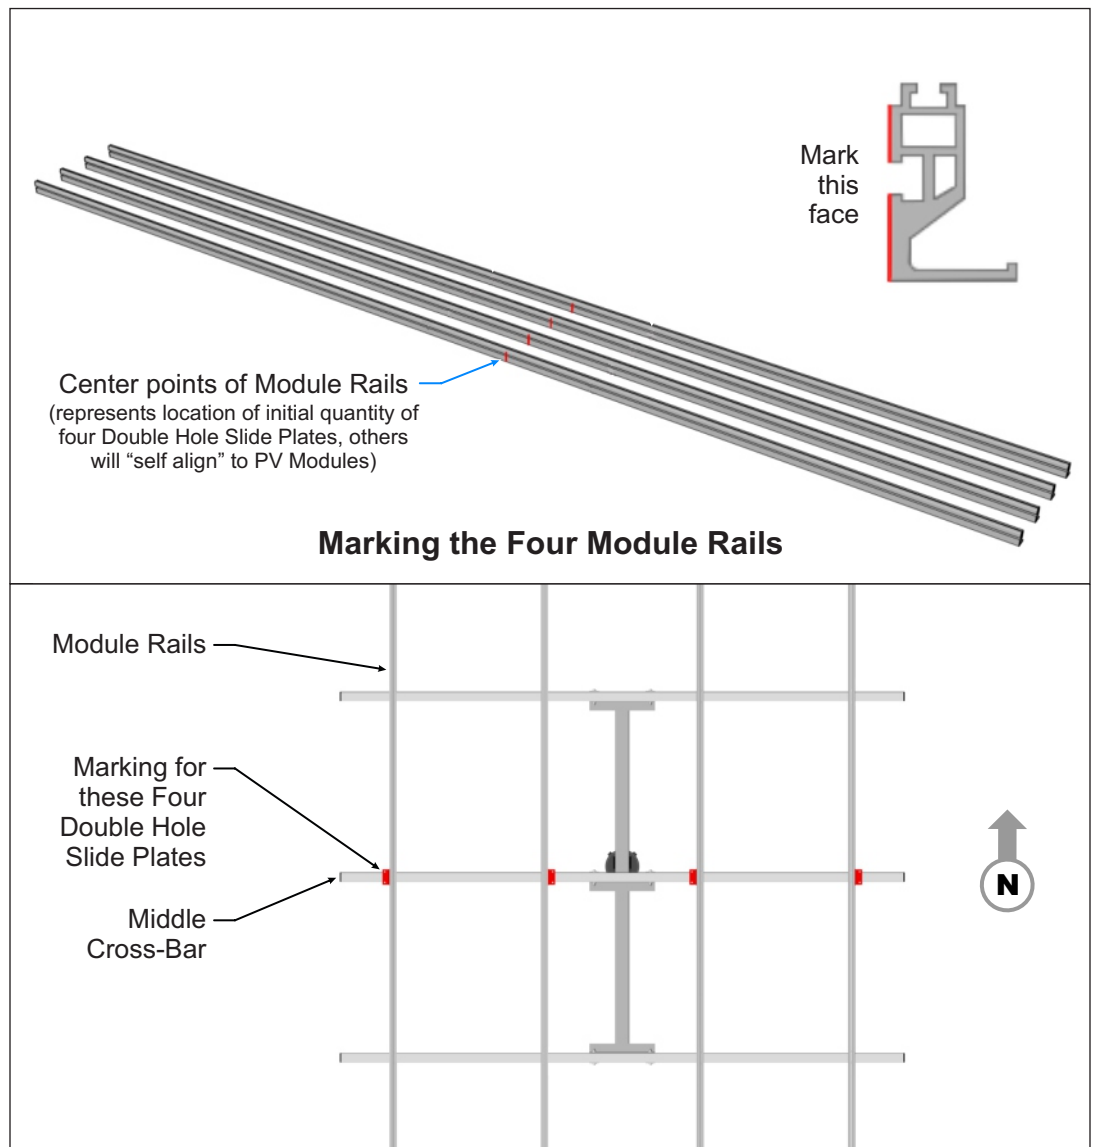

Figure 3-2: Marking the Module Rails for Double Hole Slide Plate Positioning
- A. Collect the four Module Rails. Align and orient as shown in Figure 3-2.